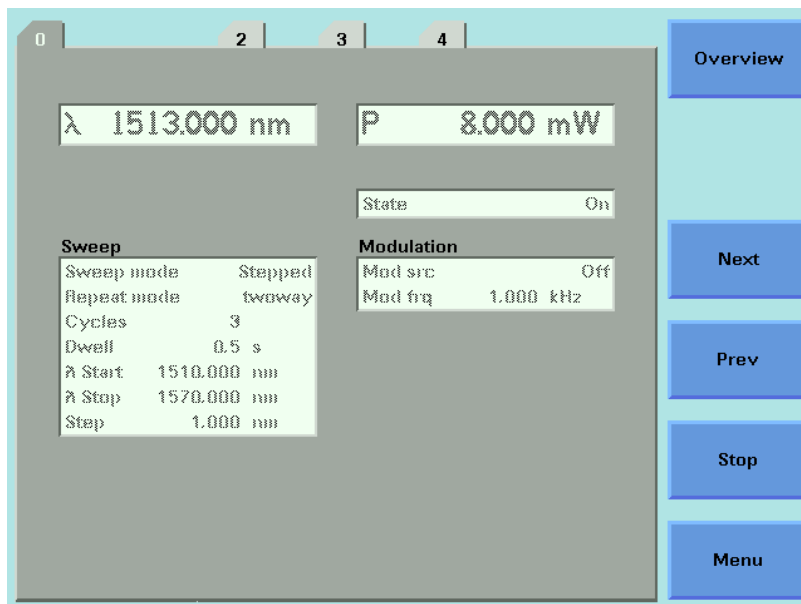

Figure 17 Performing a Manual Sweep
- 6 Press [Run Swp] to start the sweep. The screen in Figure 17 then appears.